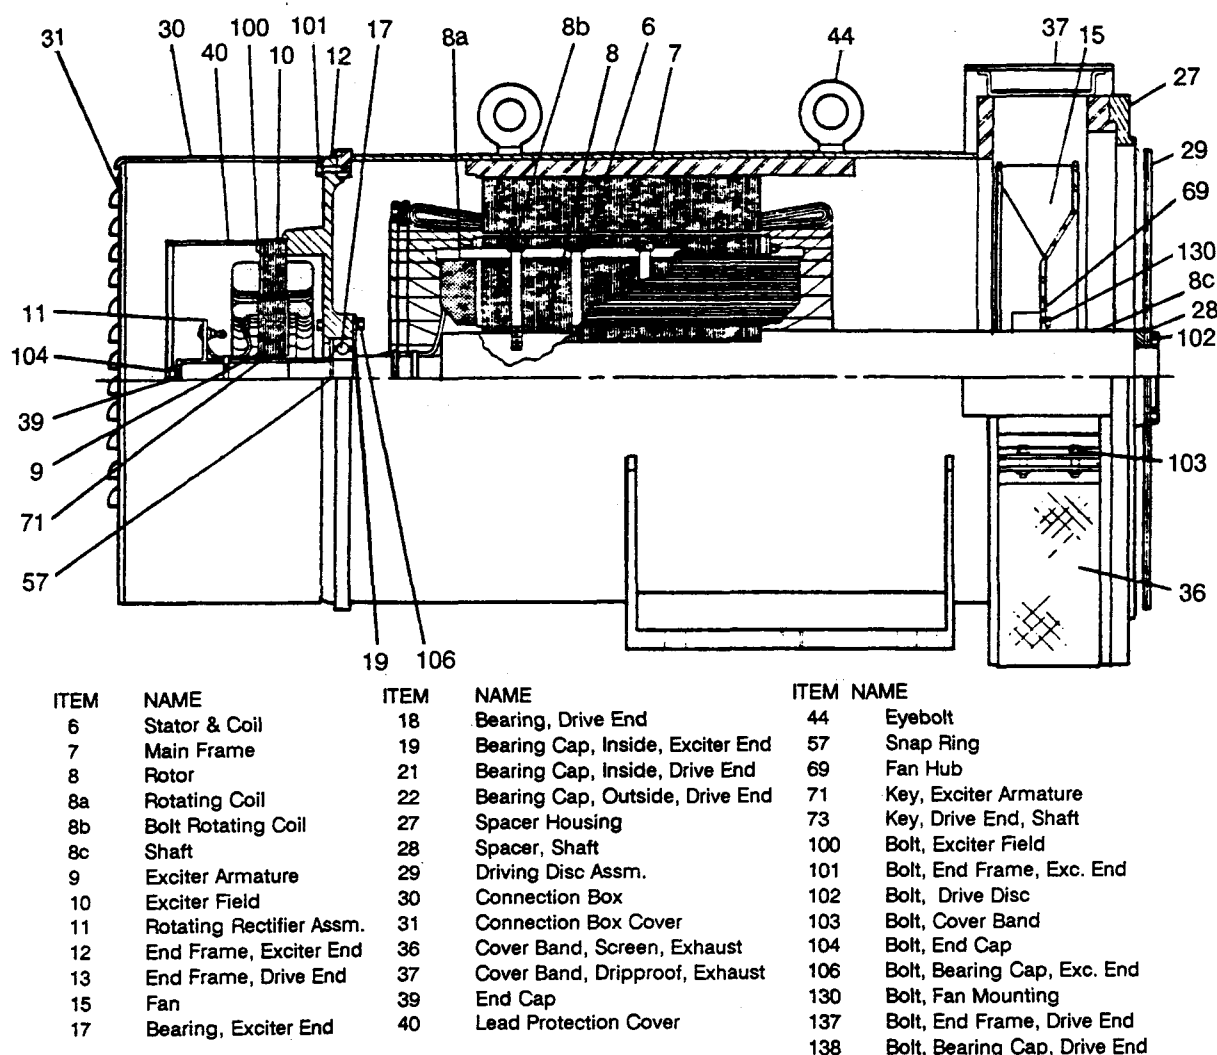

FIGURE 14-2(A). Generator Components.
The main rotating field (8 in Figure 14-2) can consist of four to eight individual coils or pole pieces keyed to the rotor shaft. The coils are connected in series and consist of only one wire. The direction that the wire is wound around the pole piece determines the magnitude polarity of each individual field coil. Rectified DC, from the rotating rectifier (11), develops the revolving magnetic field inside the main